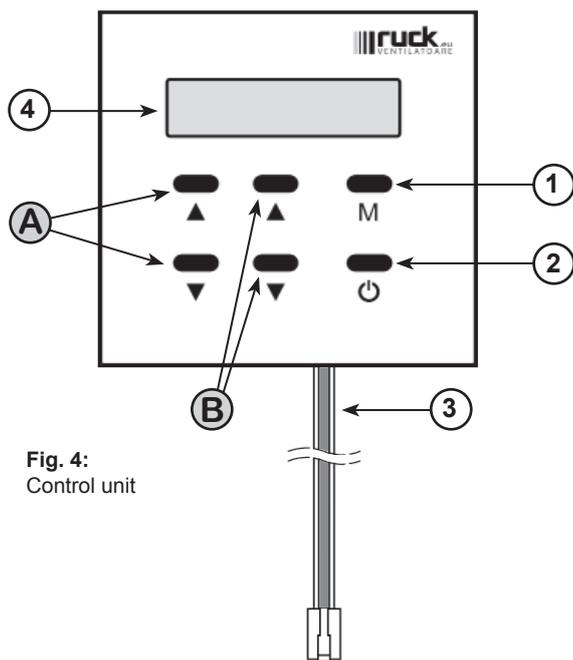

Fig. 4:
The control unit is connected to the supply air unit's control system with a control cable. A connector on the control cable is plugged directly into the socket on the control unit from beneath (see Fig. 4). At the regulator, the control cable passes first through a cable gland and is then connected at its RJ10 socket on the regulator PCB.
9.2.2. Menu functions (see Fig. 4)